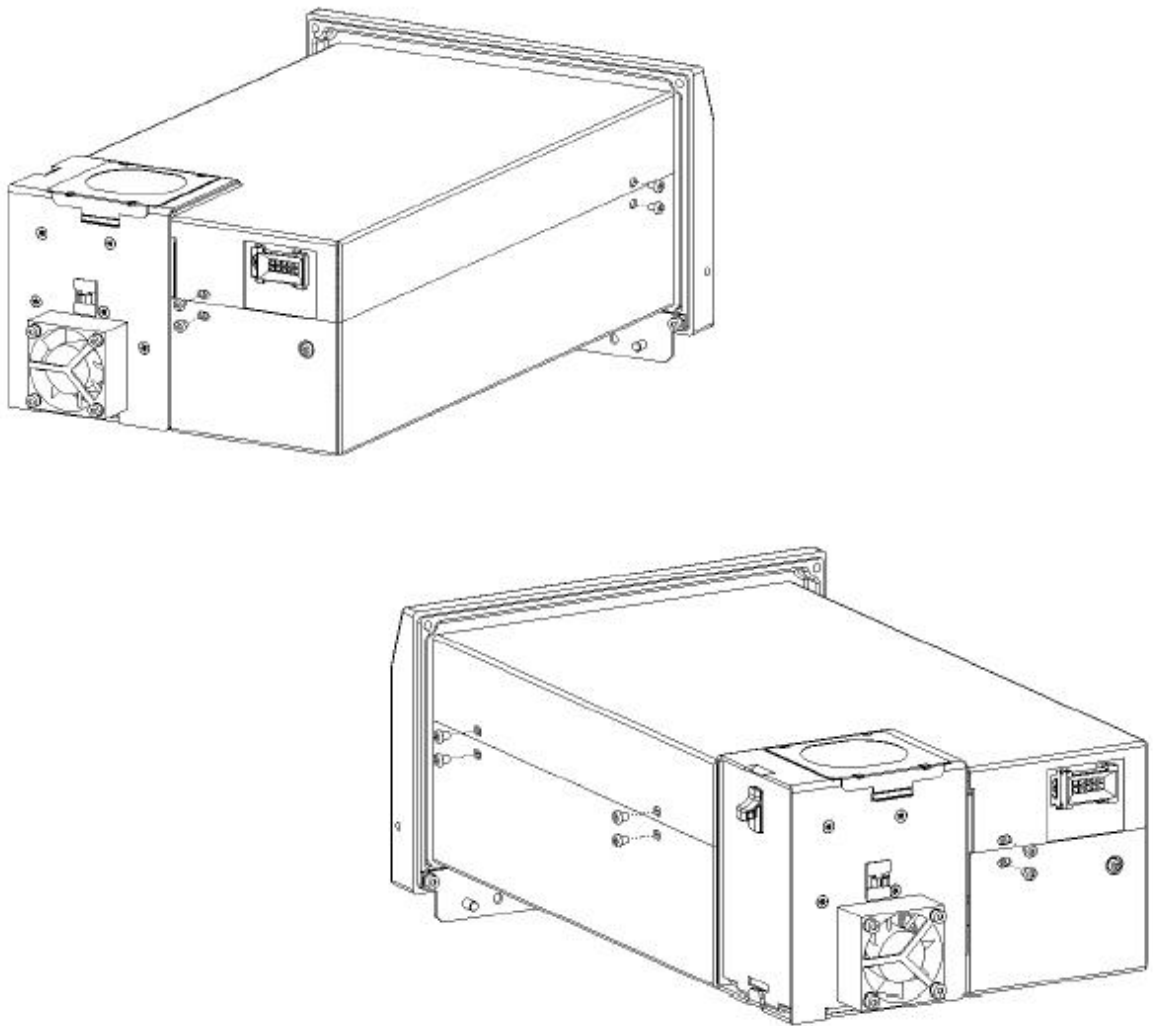

Figure N-6: Screws Securing the Reader Covers
Eight screws are used to secure the covers (Figure N-6).
- **Note:** When replacing the fan, mount it with the airflow blowing away from the assembly, as denoted in Figure N-6 and the wiring come from the upper left corner.